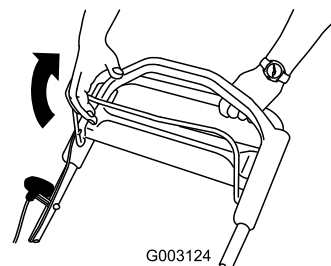

Figure 16
2. Pull the blade-control bar to the handle (Figure 16).